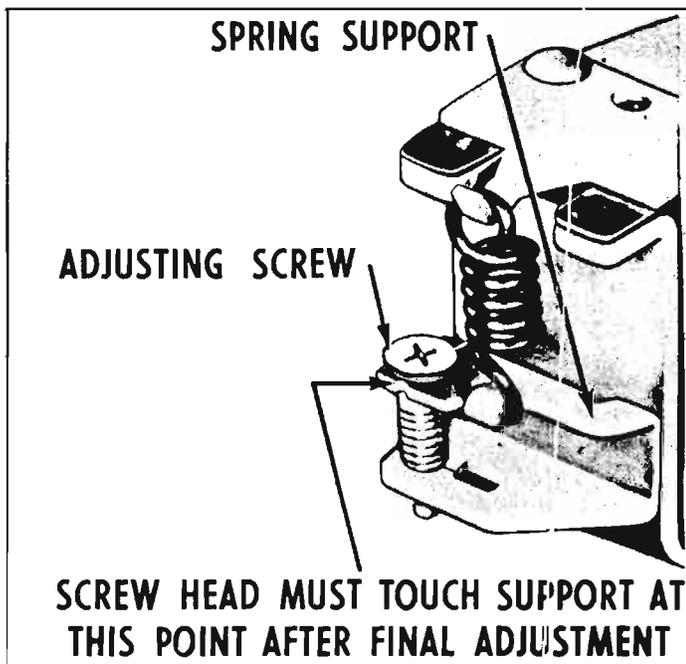

Fig. 8-8—Contact Between Regulator Spring Support and Adjusting Screw
CAUTION: Final adjustment should always be made by increasing spring tension to assure contact between the screw head and spring support. Sometimes the spring support does not follow the screw head as spring tension is decreased, and it will be necessary to bend the spring support up to insure contact between the spring support and screw head before final adjustment is completed (fig. 8-8). Failure of the voltage regulator unit to "hold" its setting usually results from—(1) setting or checking the voltage regulator at other than operating temperature, and (2) the screw head not touching the spring support after final adjustment is complete.